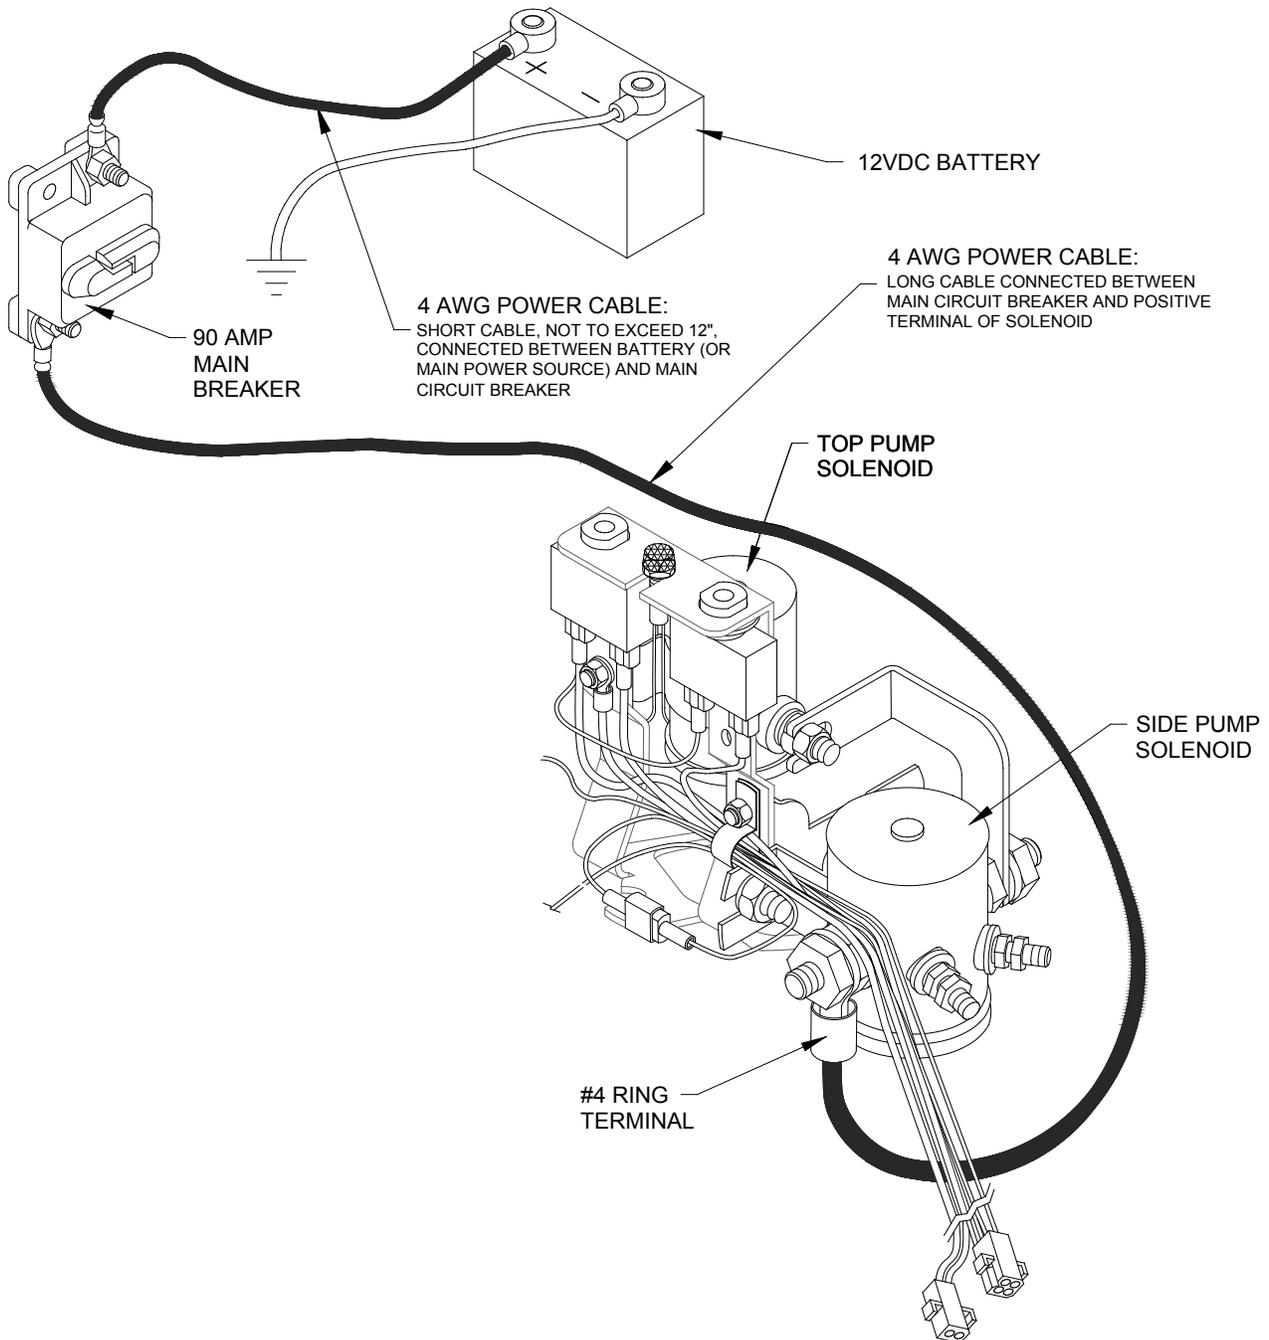

FIGURE 2-4: ELECTRICAL INSTALLATION DIAGRAM
- b. Refer to **Figures 2-4 and 2-5**. Drill one 3/4" diameter hole through vehicle floor adjacent to base of hydraulic pump unit. Deburr hole and install grommet. If necessary, cut away any flooring material that is within 1/4" of hole.